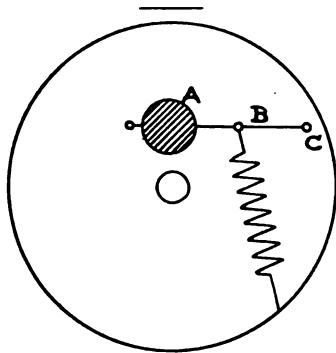

Fig. 1.
4. How do you calculate the centrifugal force produced by weight A, of a shaft governor when the bar B is 12 inches long and the weight of A is 25 pounds? Speed of shaft is 200 R. P. M. See Fig. 1.
5 How strong a spring will be required or are they just strong enough to overcome the centrifugal force? See Fig. 1.